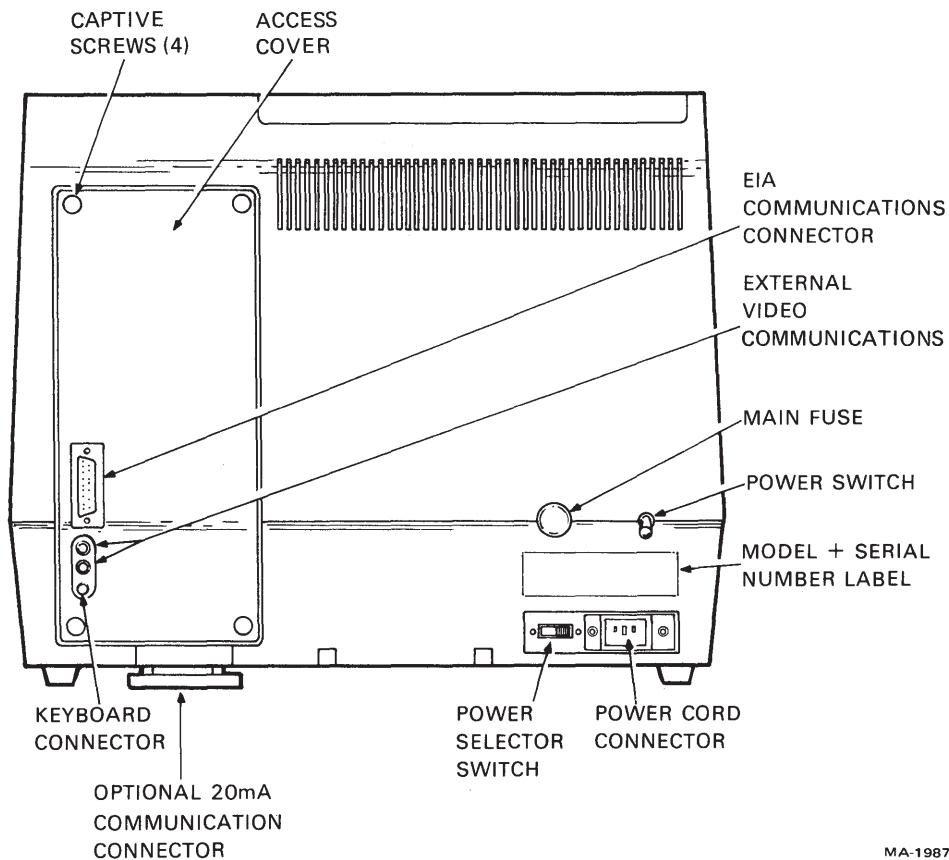

Figure 4-1
2. Unplug the keyboard (Figure 4-1).